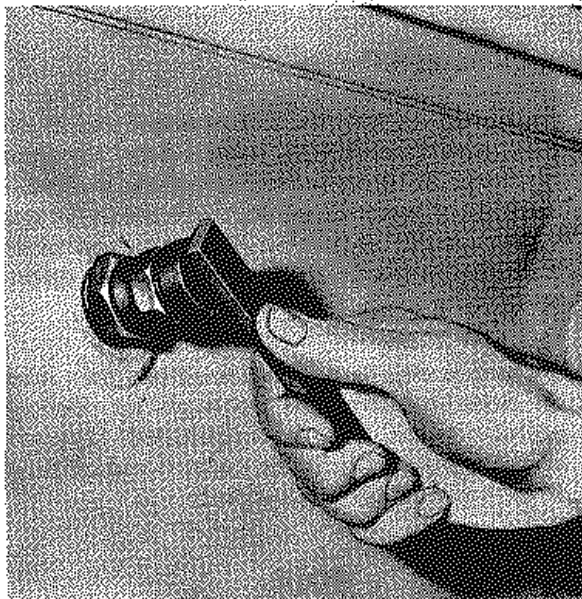

Fig. B-7 - Test Valve Wrench
2. While oil pressure is being applied, open the cylinder test valves, Fig. B-7, and turn the engine manually one complete revolution. Check all bearings at the crankshaft, camshafts, rocker arms, and at the rear gear train for oil flow. Also check for restrictions or excessive oil